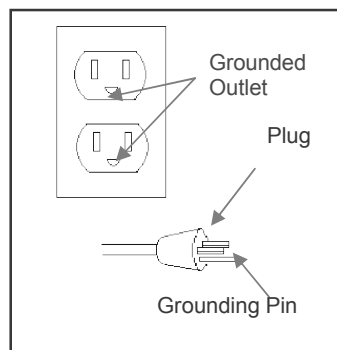

Figure 1
- J. **POWER CORD:** This product is for use on a nominal 120-volt circuit and should be grounded. A cord with a grounding plug must be used. Make sure that the product is connected to an outlet having the same configuration as the plug (see Figure 1). No adapter should be used with this product.